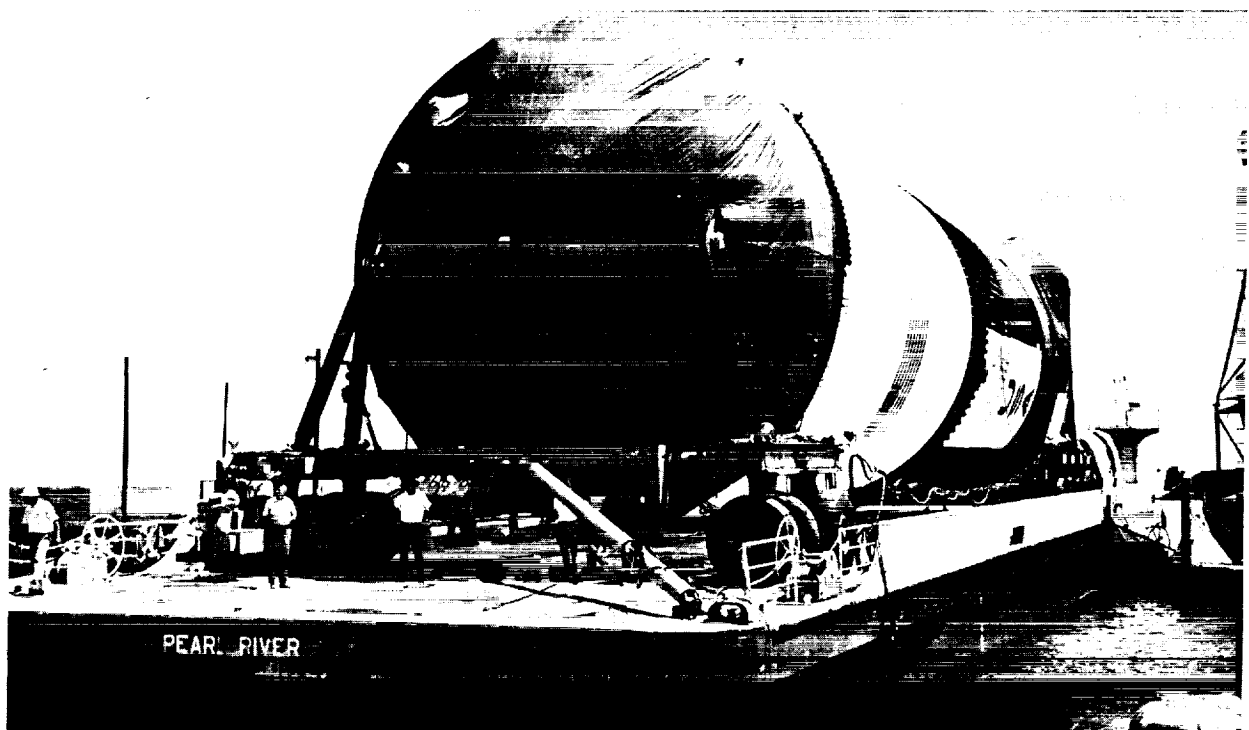

Figure 6-3. Barge Loading - Little Lake or Pearl River
6-6. BARGE LOADING - LITTLE LAKE OR PEARL RIVER. Load S-IC stage and associated equipment on barge per figure 6-3 as follows:
- s. Set steering made switch (9) per figure 3-5 to parallel and rotate one wheel unit each side of rear dolly per figure 6-3.